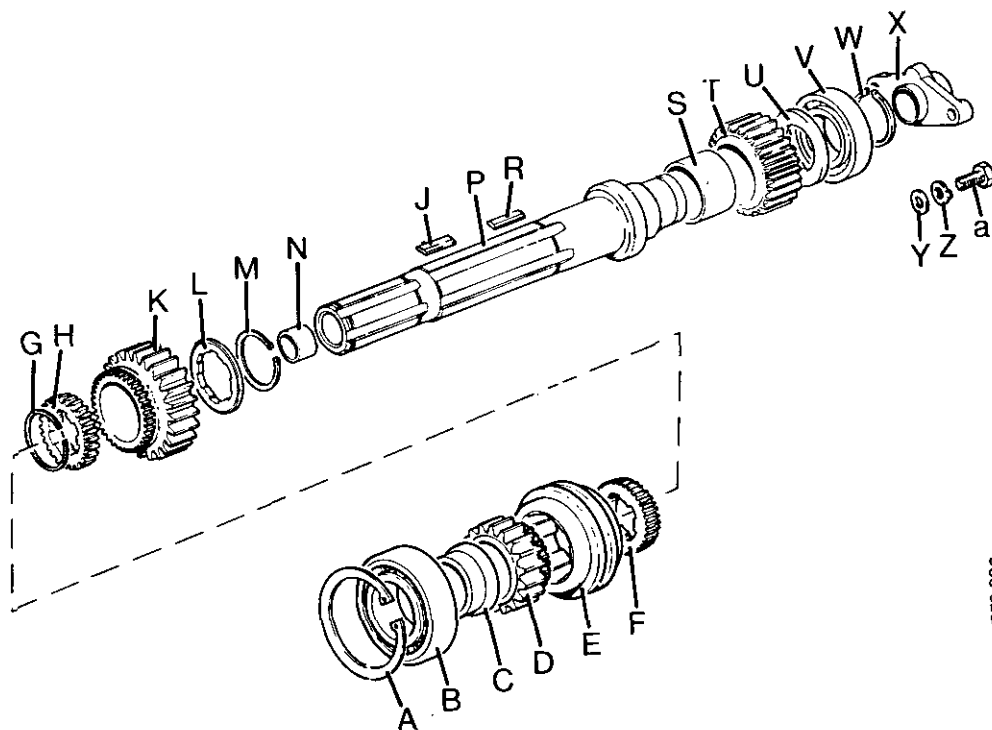

FIGURE 82. TOPSHAFT ASSEMBLY 1410 TRACTOR
29. Disassemble the topshaft as follows if necessary; see Figure 82.